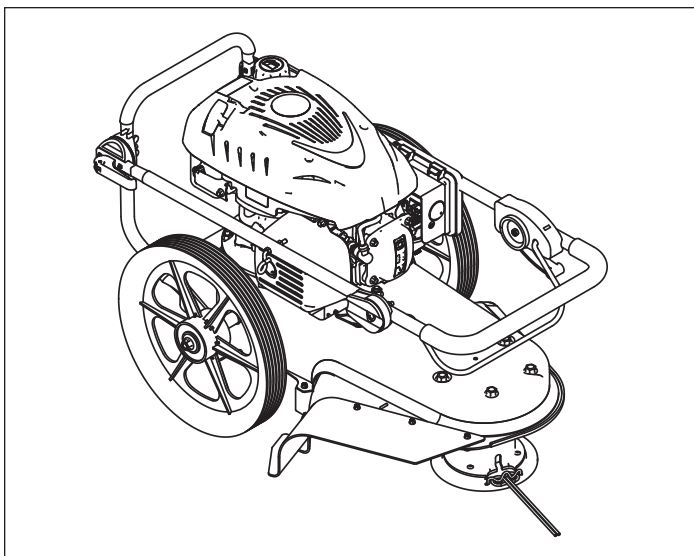

FIGURE 2: Your new trimmer as it is shipped to you.
4. Pull the trimmer out of the carton. **SEE FIGURE 2**